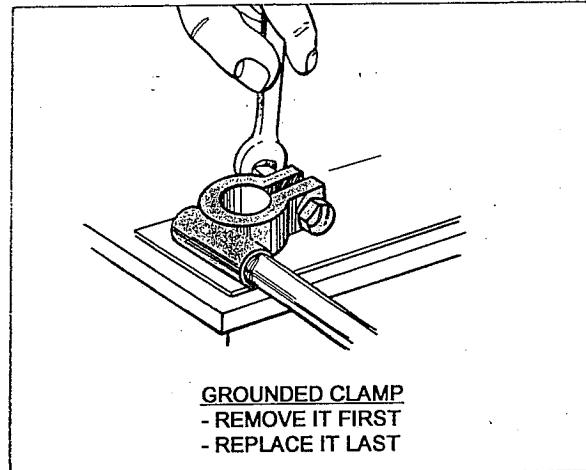

Fig. 5—Connect and Disconnect Battery Cables in the Proper Sequence
a) When removing the battery, disconnect the grounded battery clamp first (Fig. 5).